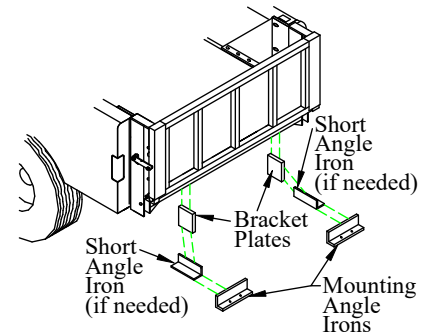

Figure 20: Lower bracket support.
2. **Bolt** the bracket plates to the truck frame (Figure 20). If possible, these may extend out to the mounting angle irons on the liftgate. Modification to the bracket plates may be required.